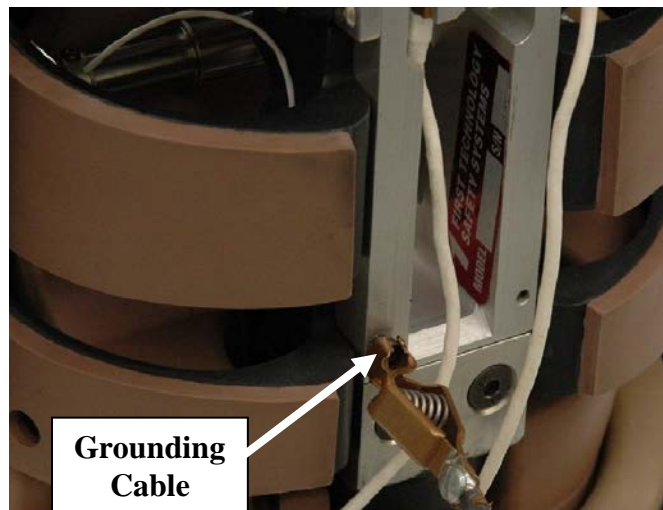

Figure 120. Grounding the dummy
- To prepare to install the Q3s positioning tool³⁶ (Figure 120) between the dummy's knees, push the femurs and tibias downward so that the legs make full contact with the test surface. When installed on the dummy, the (impact side) edge of the positioning tool should be flush or no more than 10mm inboard of the edge of the Teflon® sheet; the edge of the sheet must be along the impact side of the bench's seat pan.